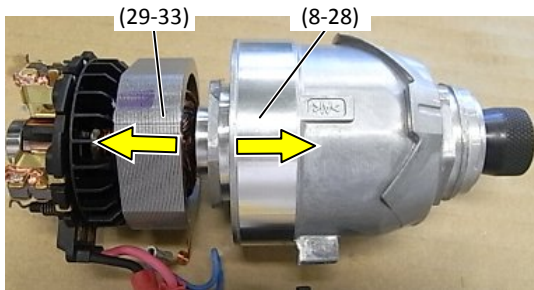

Figure 15
1. Remove Hammer case section (8-28) from Motor section (29-33). (See Figure 15)